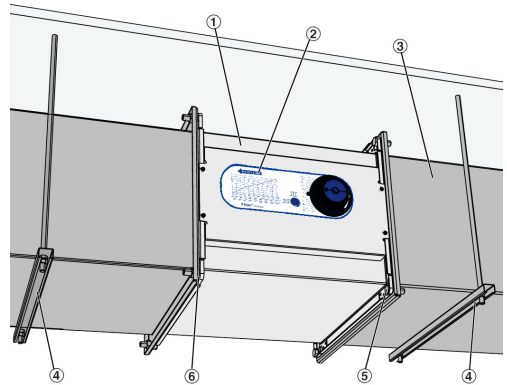

Fig. 7: Installation example
1. ▶ Install suspension rods and bars (Fig. 7/4) at the installation location, at a distance of approx. L+100 mm.
2. ▶ Assemble the ducts (Fig. 7/3) and lead them up to the installation location of the controller.
3. ▶ Insert seals (Fig. 7/6) between the flanges & 'Attaching sealing tape' on page 7 (on-site).
Observe the air direction arrow (Fig. 7/2) during installation.
4. ▶ Screw the controller (Fig. 7/1) together with screws, washers and nuts M10 (Fig. 7/5).
- Screw connection (Fig. 7/5) with screws and washers M8;